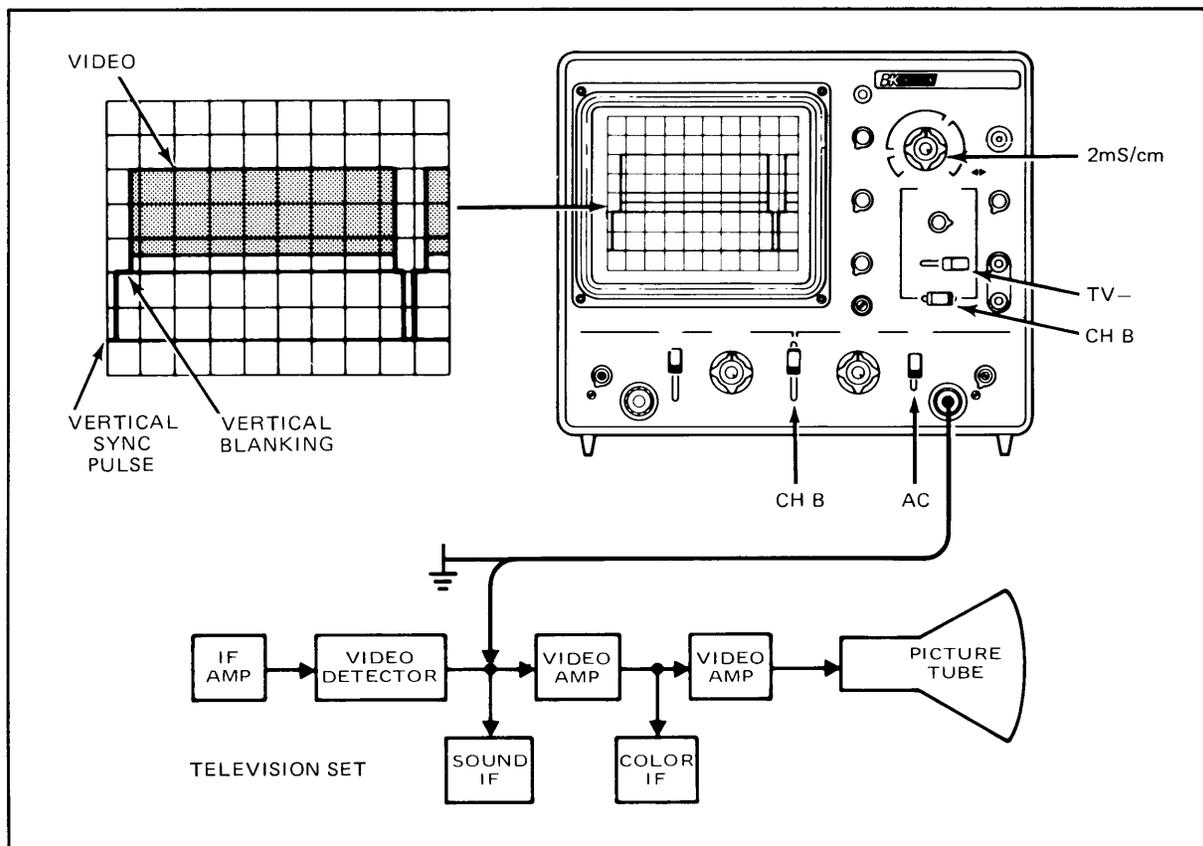
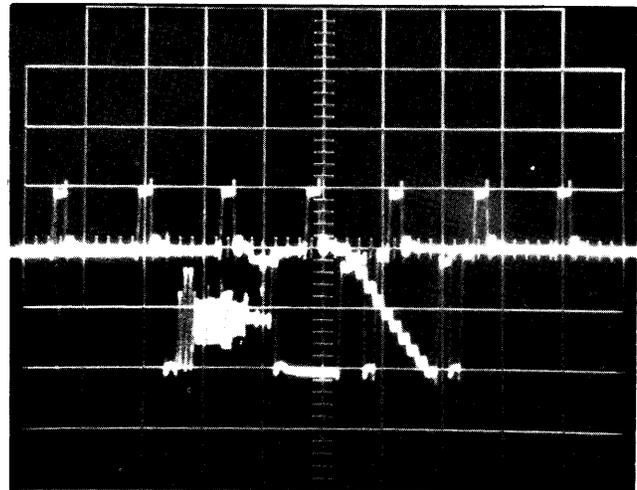

Fig. 22. Set-up for viewing *vertical* fields of composite video signal.
Fig. 27. Oscilloscope presentation of VITS information, single-trace operation.
8. The waveform should be similar to that shown in Fig. 27. For the oscilloscope display, each vertical sync pulse starts a new sweep. This causes line 17 and line 279 (multi-burst) to be superimposed, as are lines 18 and 280. The multi-burst signals are identical, which reinforces the trace. However, lines 18 and 280 are not identical and both signals are superimposed over each other.
9. The presentation of the preceding paragraphs (Fig. 27) is the limit of observation possible with a single-trace oscilloscopy. With the Model 1472C oscilloscope, however, a single-field VITS presentation can be obtained by placing the MODE switch in the A & B position. This causes the Channel B information to be displayed on alternate sweeps, as are the Field #1 and Field #2 VITS. Because there is no provision for preselecting the Field #1 or Field #2 information, either Field #1 or Field #2 (Fig. 22) will appear. The multi-burst information in the VITS is the most valuable for troubleshooting television receivers and, because it is present on both Field #1 and Field #2 VITS, either can be used for troubleshooting and signal tracing.